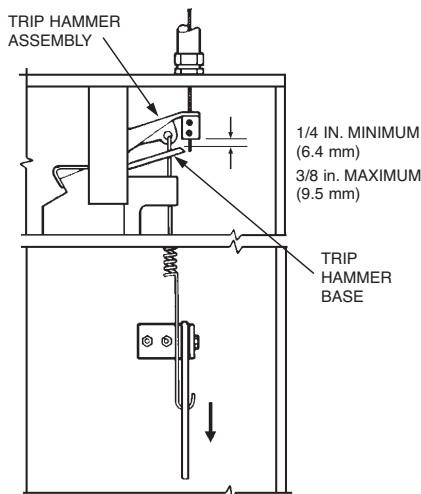

FIGURE 45
16. Lower tension lever to “DOWN” position and inspect the base of the wire rope clamping device to make certain that there is a minimum of 1/4 in. (6.4 mm) and a maximum of 3/8 in. (9.5 mm) clearance between the base of the trip hammer assembly and the cable lever assembly. See Figure 45. (If clearance is not between 1/4 in. (6.4 mm) or 3/8 in. (9.5 mm), raise tension lever, loosen set screws on locking clamp and repeat Steps 15 and 16.)